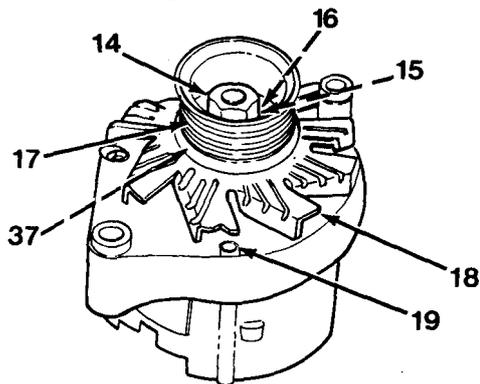
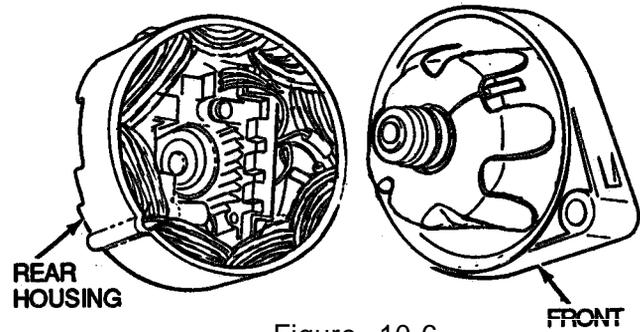

Figure 10-5
Figure 10-6
3. Remove four thru bolts (19, Figure 10-5) and separate front and rear housings (Figure 10-6). The rotor assembly will be in front housing and stator assembly will be in rear housing.
5. Remove nut (14), split lockwasher (15), cone (16), pulley (17) and fan (18) and spacer (37, Figure 10-5).